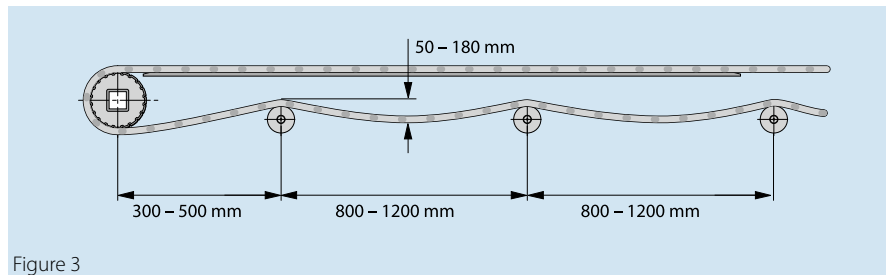

Figure 3
- Long conveyors: centre distance > 20,000 mm and low speeds centre distance < 15,000 mm and high speeds (fig. 3)